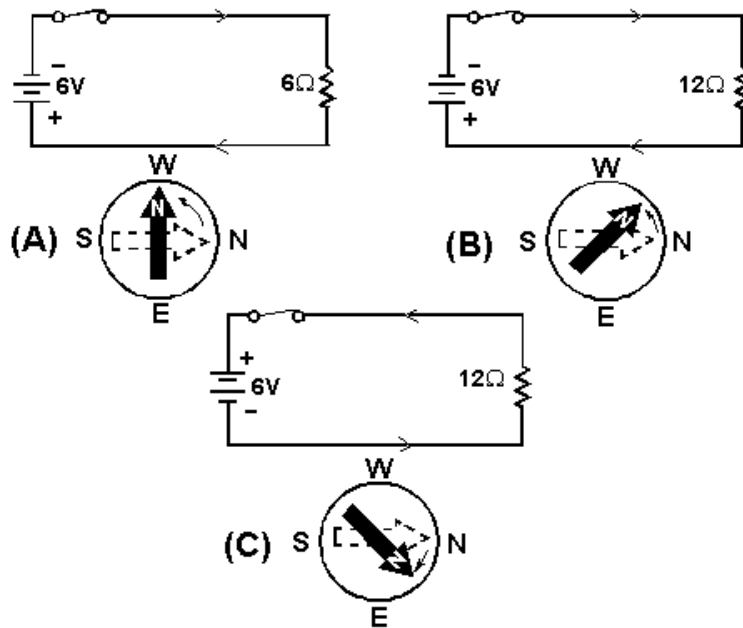

Figure 1-2.—Compass and conductor with direct current.
You know that an electrical conductor in which current flows has a magnetic field generated around it. If a compass is placed close to the conductor, the compass will react to that magnetic field (fig. 1-2).
If the battery is disconnected, the north end of the compass needle will point to magnetic north, as illustrated in figure 1-2(A) by the broken-line compass needle pointing to the right. When the battery is connected, current flows through the circuit and the compass needle aligns itself with the magnetic field of the conductor, as indicated by the solid compass needle. The strength of the magnetic field created around the conductor is dependent upon the amount of current.
In figure 1-2(A), the resistance in the circuit is 6 ohms. With the 6-volt battery shown, current in the circuit is 1 ampere. In figure 1-2(B), the resistance has been changed to 12 ohms. With the 6-volt battery shown, current in the circuit is  $1/2$  or .5 ampere. The magnetic field around the conductor in figure 1-2(B) is weaker than the magnetic field around the conductor in figure 1-2(A). The compass needle in figure 1-2(B) does not move as far from magnetic north.
In figure 1-2(C), the battery connections are reversed and the compass needle now moves in the opposite direction.